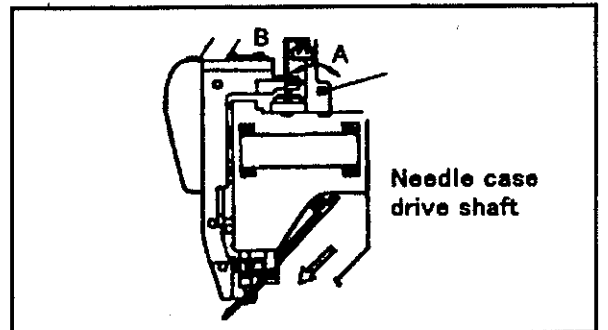

FIG.4
- (3) Confirm that the needle socket to be inserted lightly into the chuck plate by rotating the needle case drive shaft with the screwdriver (Fig.4 and 5).